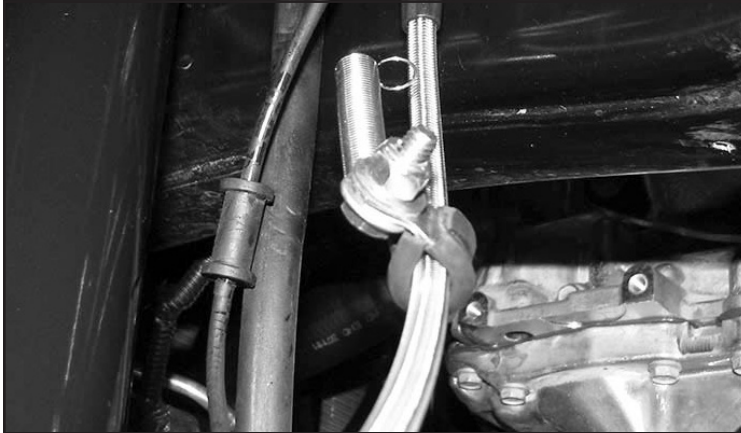

FIGURE 23 - STEP 5
5. Locate the supplied cushioned clamps, 1/4" X 1" bolts, washers, nuts, TEK screws and springs. Install the clamp around the brake using the 1/4" hardware. **NOTE: Install the eyelet of the spring between the clamp and washer. SEE FIGURE 23**